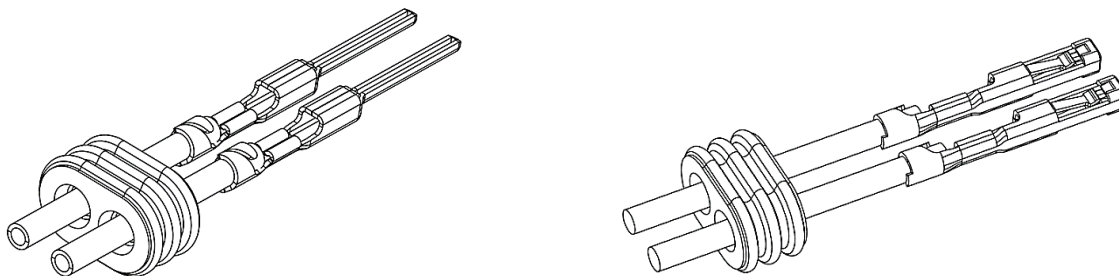

Figure 10
1. Put the seal on the wire before inserting the terminal into the Housing. See Figure 10.